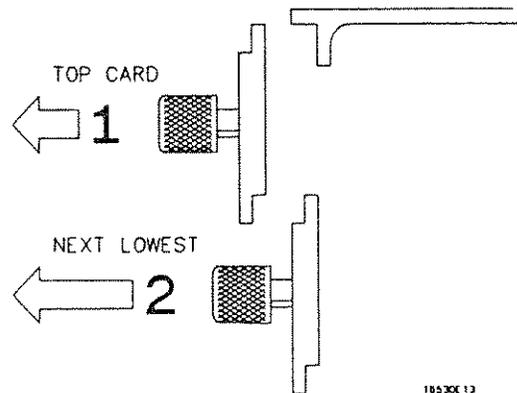

Figure B-2. Endplate Overlap
- Starting from the top, loosen the thumb screws on the filler panels and cards that need to be moved. Starting from the top, pull the cards and filler panels halfway out. See figure B-2.